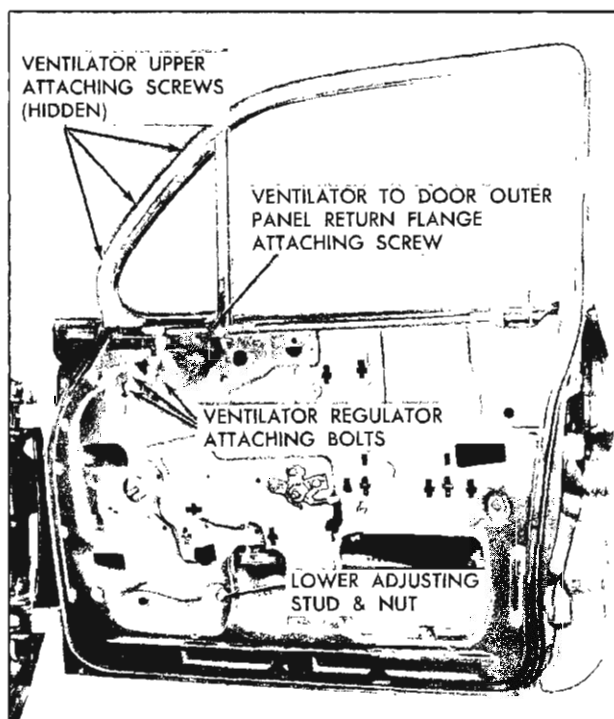

Fig. 30—Front Door Ventilator Assembly Attachments
5. Remove ventilator upper attaching screws along window frame (fig. 30).
1. To correct a condition where glass is "cocked" in glass run channels, loosen inner panel cam attaching screws, adjust cam up or down as required and tighten screws (fig. 30).
2. To adjust lower portion of ventilator division channel for proper alignment with door window assembly, lower door window and loosen ventilator adjusting stud nut. Turn adjusting stud in or out or position lower end of channel fore or aft as required; then tighten adjusting stud nut (fig. 30).
3. To adjust lower portion of window glass run channel in or out for proper alignment with door window, raise door window. From inside door, loosen glass run channel lower attaching nut or screw, adjust channel as required and tighten nut or screw (fig. 30).
- Remove ventilator division channel lower adjusting stud and nut (fig. 30).
- Remove door window lower sash channel cam (fig. 30).
- Remove inner panel cam and window regulator attaching bolts and carefully remove regulator assembly from door (fig. 30).
3. Through inner panel access hole loosen nut or screw securing lower end of glass run channel (fig. 30).